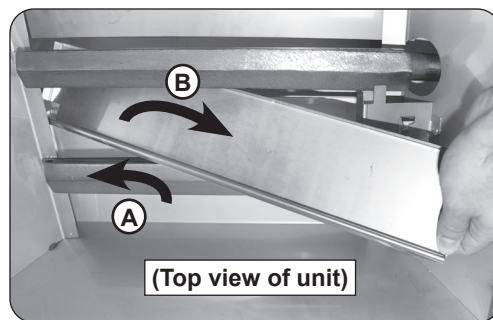

Fig. 36-2 Remove drip tray
3. Locate and remove the trays. To remove a tray, first lift and slide the tray to the left and pull out from between the two burners. See Fig. 36-2, A and B.